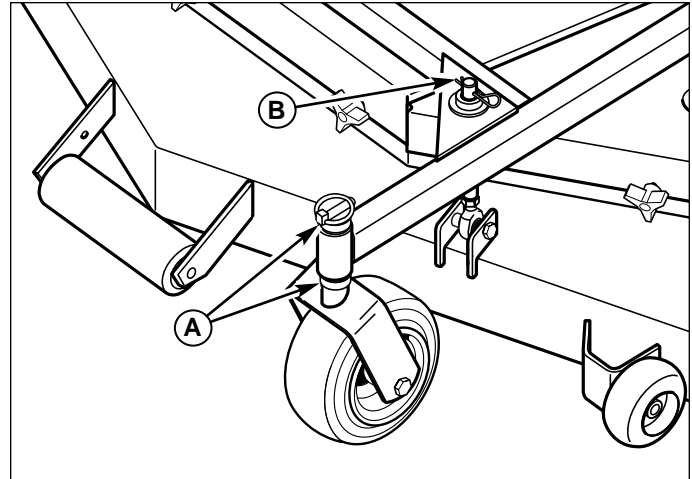

Figure 18. Caster Spacers & Hairpin Clip
1. Make sure there is one spacer above and below the frame on the front caster shafts and place hairpin clips in the 2" cutting height position (see Figure 18).